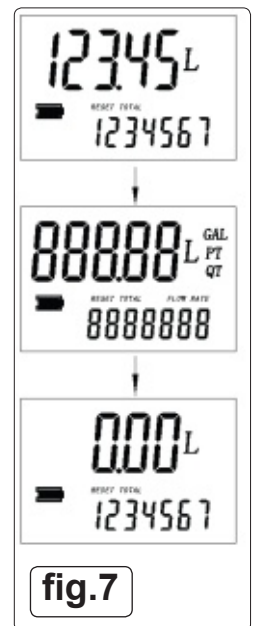

fig.7
- 5.2.4. To RESET current total (fig.7)